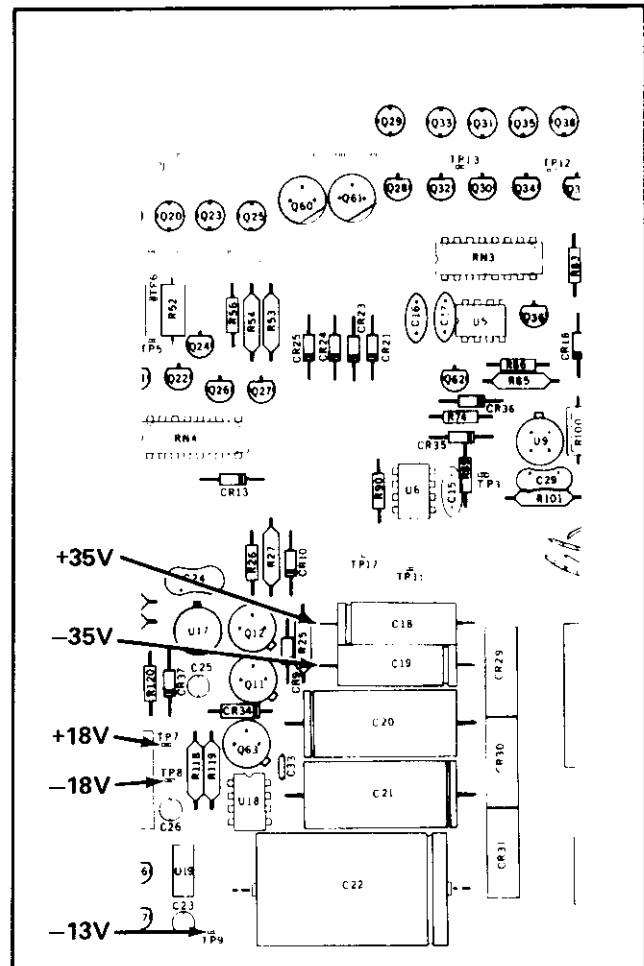

Figure 4-2. Power Supply Voltage Test Points
voltage output of each power supply. Figure 4-2 illustrates where the connections are to be made for checking each supply.
- Using a digital voltmeter (DVM) capable of reading 1V dc with 1  $\mu$ V resolution (Fluke Model 8400A, 8800A or equivalent) connect this low input lead to the 8810A LO INPUT terminal. Connect its high input to TP13 as shown in Figure 4-2.